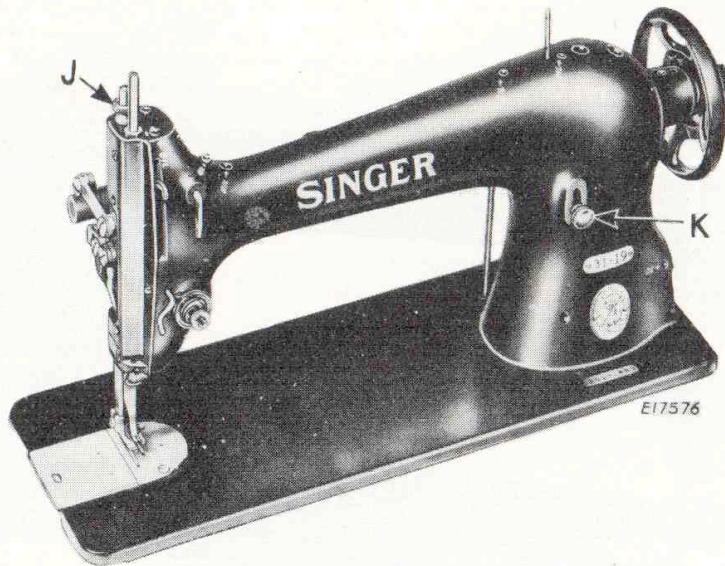
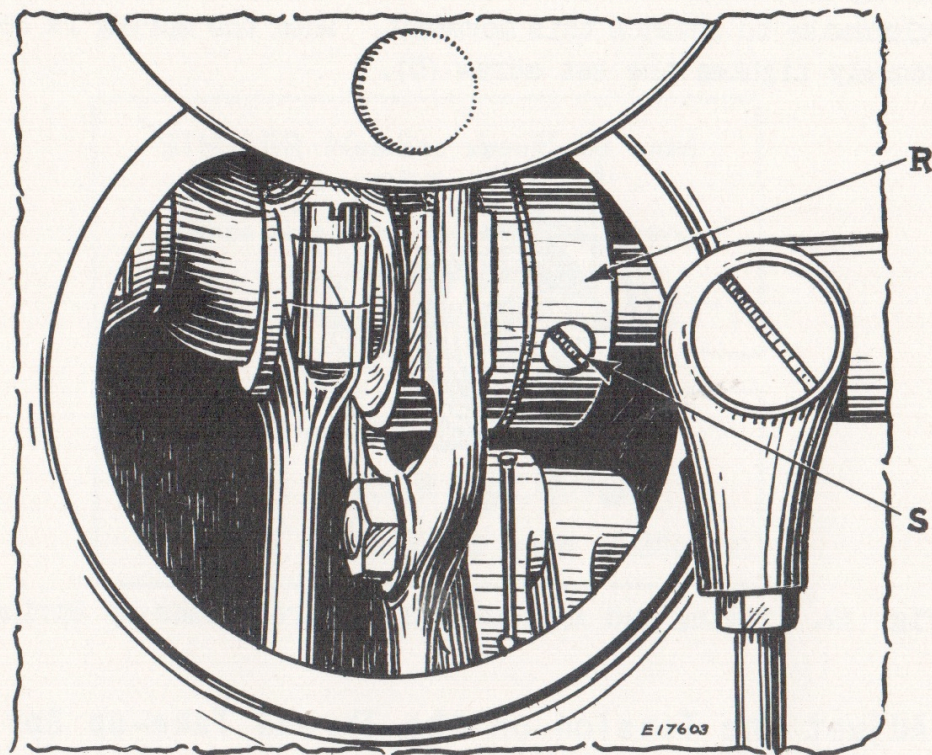

Fig. 12. Regulating Pressure on Material and Regulating Length of Stitch
Fig. 18. Showing the Timing of the Feeding Mechanism
The pressure on the material is regulated by the thumb screw (J, Fig. 12). To increase the pressure, turn this thumb screw over to the right. To decrease the pressure, turn this thumb screw over to the left.
The length of stitch is regulated by the thumb screw (K, Fig. 12) in the slot on the front of the upright part of the arm. To lengthen the stitch, loosen this thumb screw and move it downwardly. To shorten the stitch, loosen this thumb screw and move it upwardly. When the desired length of stitch has been obtained, tighten the thumb screw (K).
When it is necessary to time the feeding mechanism, move the stitch regulator (K, Fig. 12) down to its lowest point for the longest stitch and turn up the round cover plate at the back of the machine. Loosen the feed eccentric screw (S, Fig. 18) and turn the feed eccentric (R, Fig. 18) until the feed dog is correctly timed as described above, then securely tighten the set screw (S).